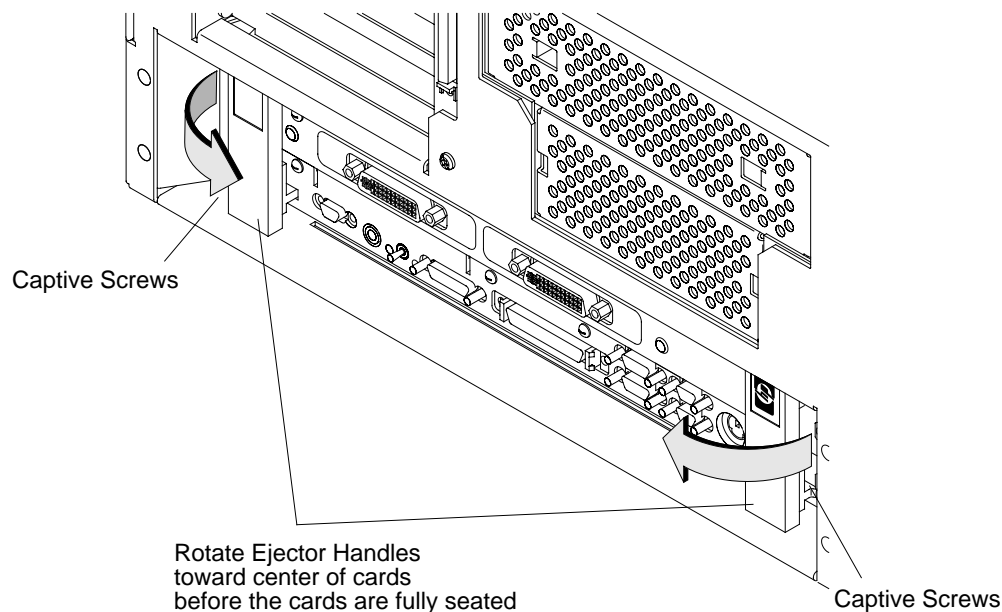

Figure 6
- 12** Engage all captive screws before tightening each screw of the board computer and PMC adapter(s). See Figure 6.